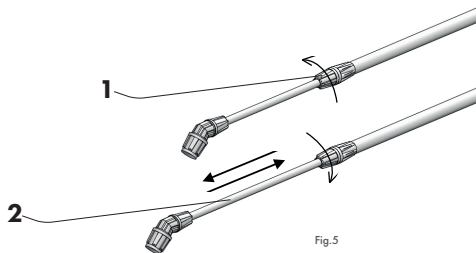

Fig.5
The lance can be extended to 1.2 m if required. To do this, loosen the conical nut (Fig. 5/item 1), slide out the adjustable part of the lance (Fig. 5/item 2) to obtain the desired length (max. 0.54 m) and tighten the conical nut (Fig. 5/item 1).